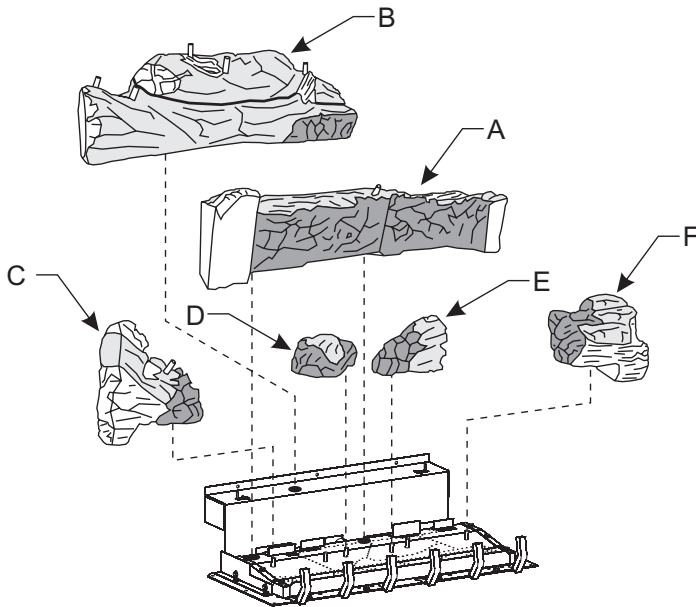

Figure 67
**Attention:** Refer to Log Identification Page 41 and 42, and Figures 67 and 68 to order logs.